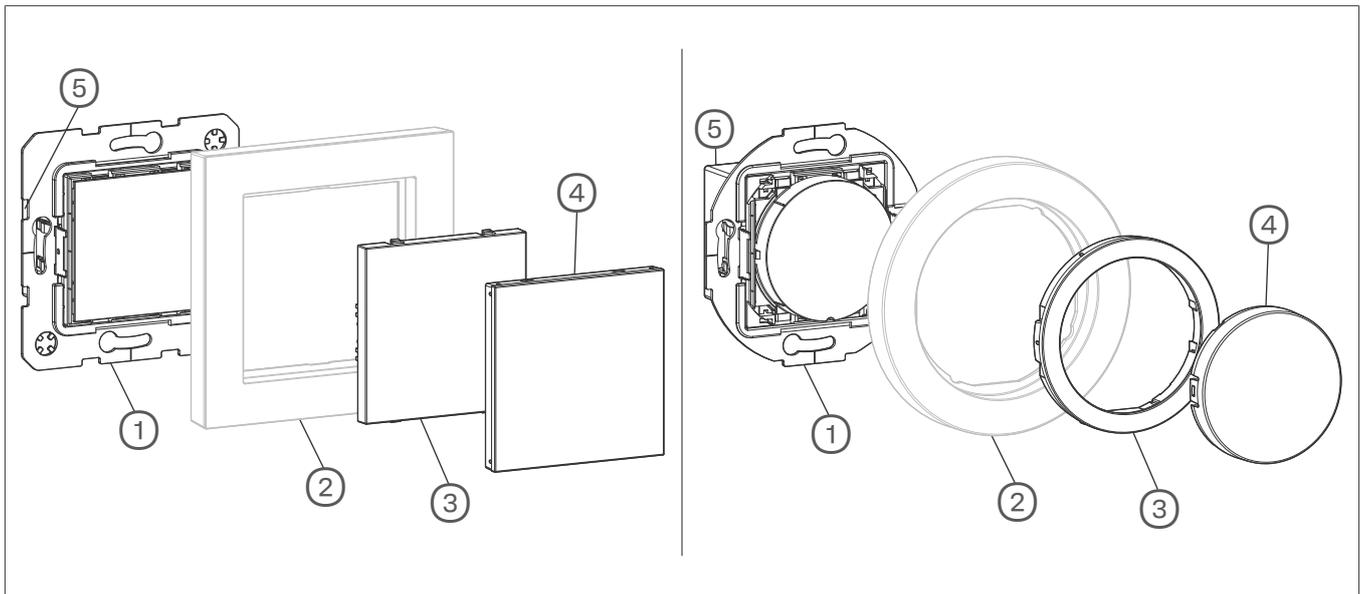
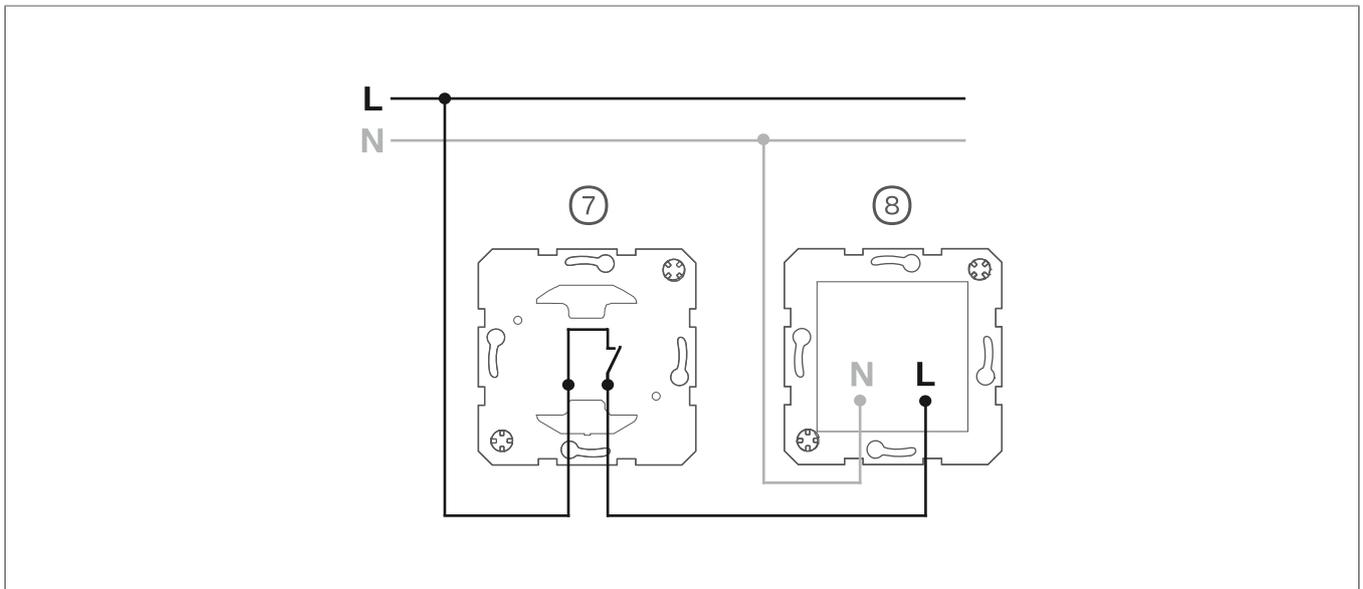

Fig. 1: LED signal light A.x/C.x (left), round series (right)
Fig. 2: Connection example of LED signal light, white lighting
- 1 Wire LED signal light with off-/change-over switch (7) (Fig. 2).
- 2 Install insert (8) into a wall box. The connecting terminals must be at the bottom.
- 3 Complete the LED signal light (Fig. 1).
- 4 Position the frame (2) over the supporting ring of the insert (1).
- 5 Place a foil (3) under the cover.
- 6 Push the cover (4) onto the insert until it clicks into place.
- 7 Snap on (5) centre piece.